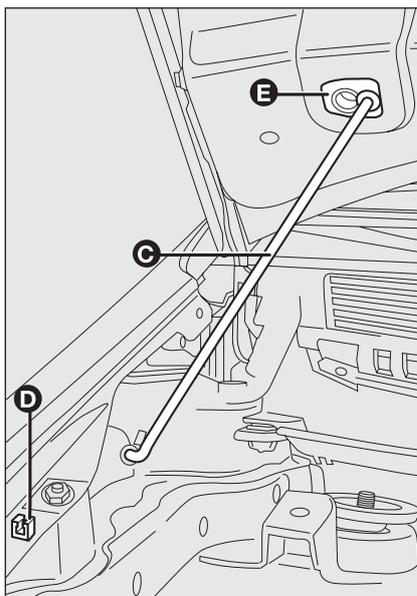

fig. 107
- lift the bonnet and at the same time release the rod **C**-**fig. 107** from the catch, then fit end **D** of the rod into the bonnet recess **E**.
## CLOSING fig. 107